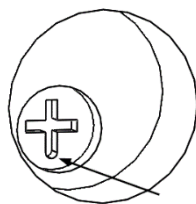

Fig.2
1. Make sure that cross/arrow is pointing downwards on both sides of lockbox (fig.2).
2. Assemble driving bar (A), support plate (B) and screws (C).
4. Attach cylinder extension (D) and cylinder lock (E) on the outside of the lockbox